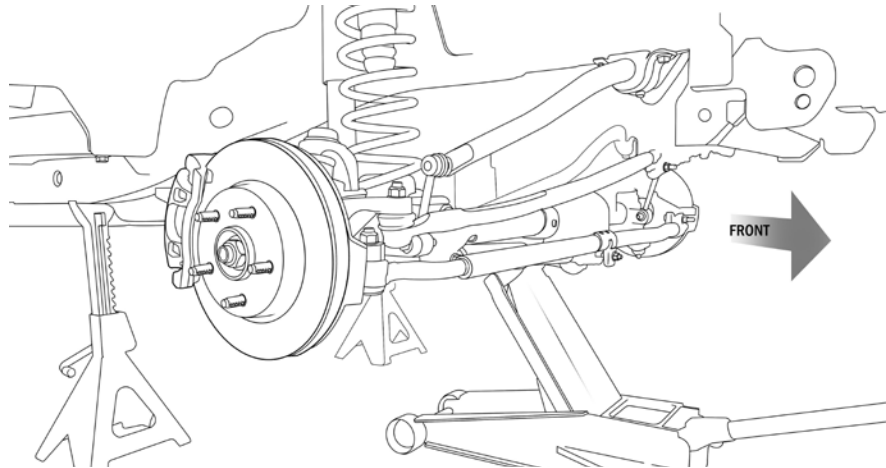

Figure 1
1. Raise Jeep and support the frame using jack stands or a hoist, such that the front axle can be lowered enough to remove the springs. Support the axle by placing floor jack under the center of the axle. Remove the wheels (Fig. 1).